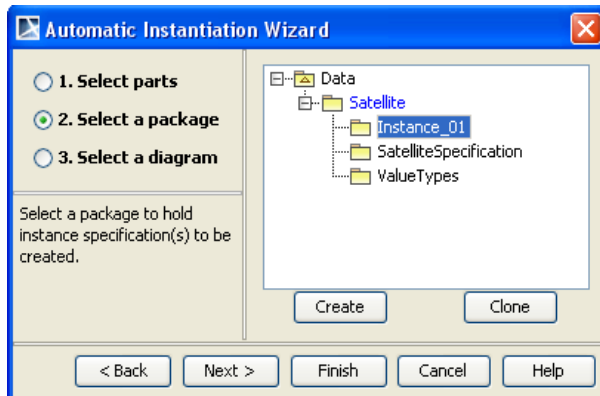

Figure 3.7b Automatic Instance Generation, Part 2
- iii. Click Create and create the **Instance_01** package in the **Satellite** package (see Figure 3.7b)